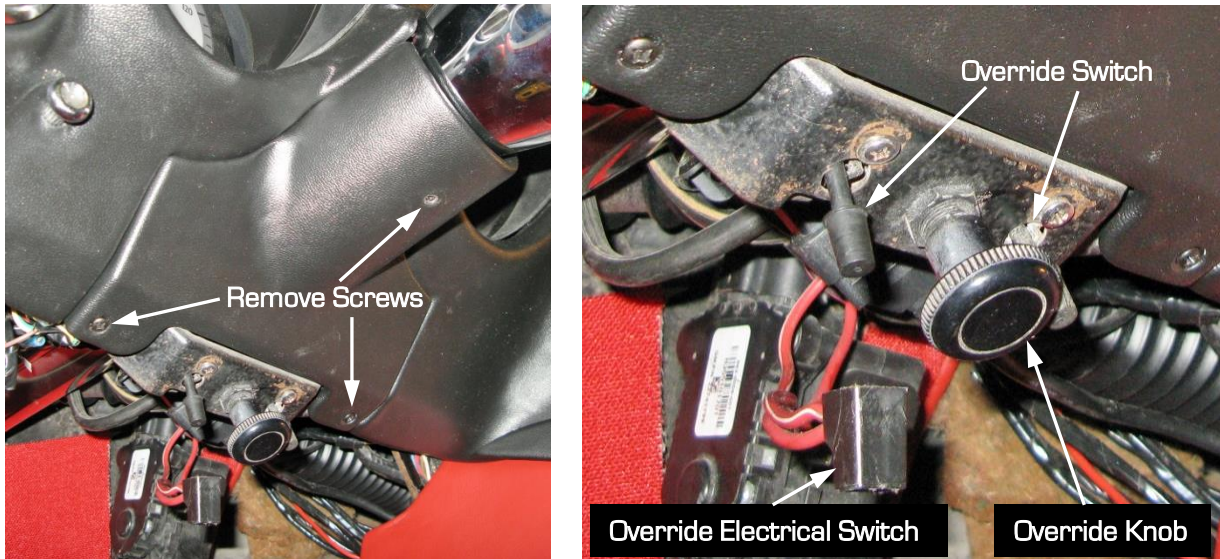

Figure 24 – Remove Lower Column Cover
22. To remove the steering column, start by removing the 2 screws from the lower column cover. **NOTE:** There may be 3 screws if you have an aftermarket steering column. You may find the vacuum over ride switches and/or the wiper over ride electrical switch (1968-72) attached to the cover (Figure 24). Remove the lower left hand side dash vent duct.